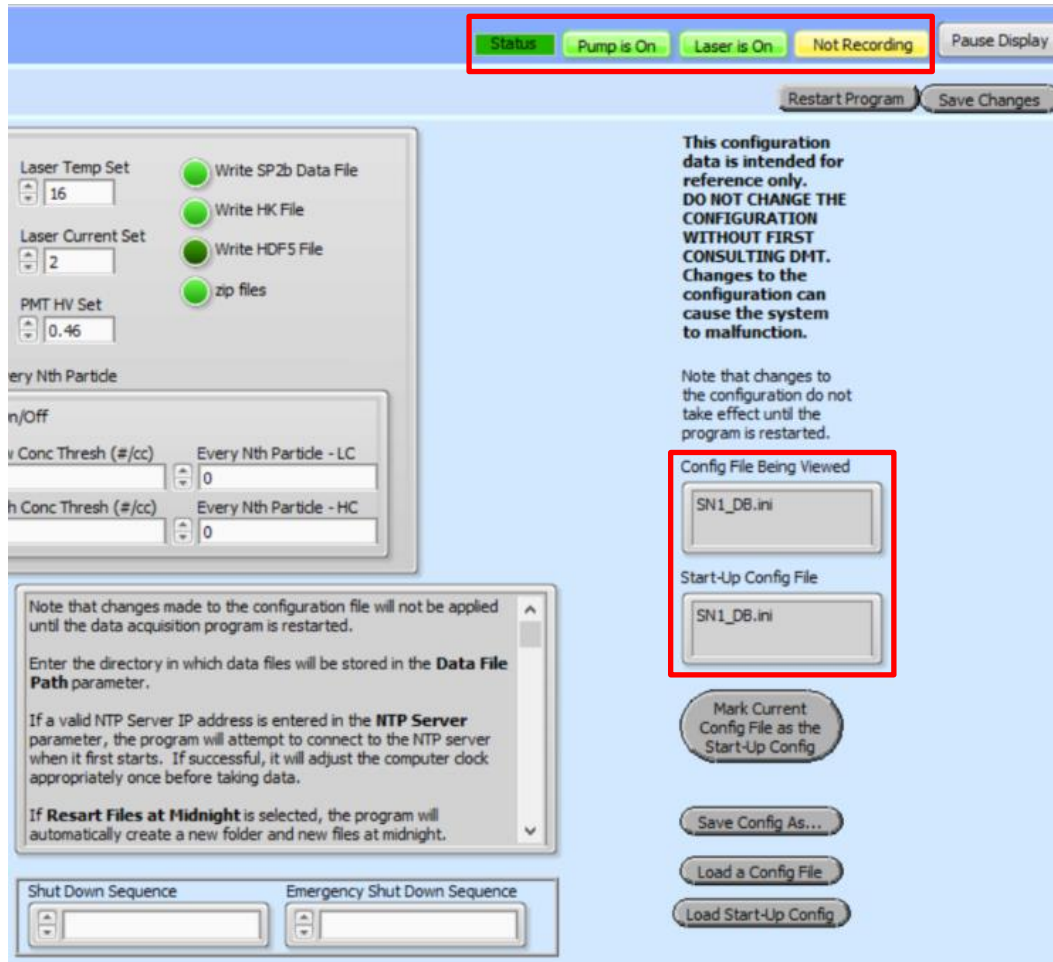

Figure 8: Check the Config file and Status
- First, go to the **Config** tab (Figure 8) and make sure that the correct config file is chosen. If the config file is incorrect, instructions for choosing which config file can be found in section 1.17.